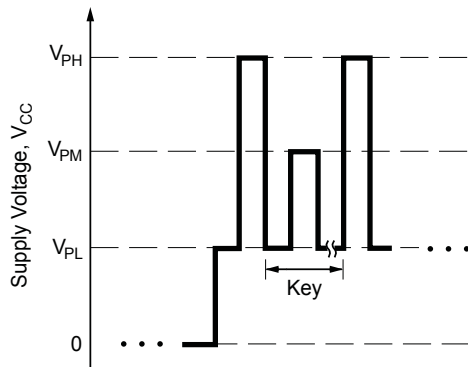
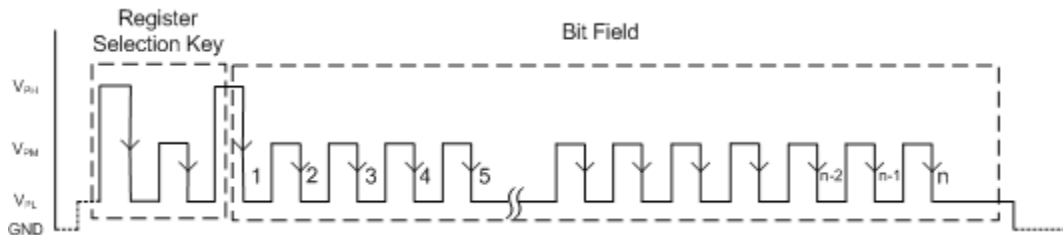

Figure 5. Register selection pulse sequence
Figure 11. Example of Try mode pulse sequence, Register Key = BOP selection down counting
**Register Selection** Each programmable parameter can be accessed through a specific register. To select a register, a sequence of voltage pulses consisting of a  $V_{PH}$  pulse, a series of  $V_{PM}$  pulses, and a  $V_{PH}$  pulse (with no  $V_{CC}$  supply interruptions) must be applied serially to the VCC pin. The quantity of  $V_{PM}$  pulses is called the *key*, and uniquely identifies each register. The pulses for selection of register key 1, is shown in figure 5. No  $V_{PM}$  pulse is sent for key 0. The register selections are shown in table 2.
When setting the  $B_{OP}$  Trim parameter, as an aid to programming, values can be traversed from low to high, or from high to low. To accommodate this direction selection, the value of the bit field (and code) defaults to the value 1, on the falling edge of the final register selection  $V_{PH}$  pulse (see figure 5). A complete example is provided in figure 11.